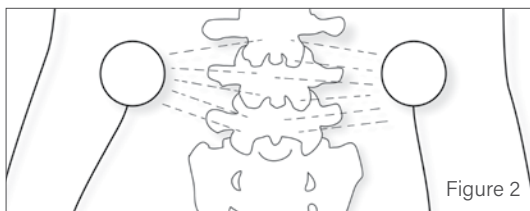

Figure 2
- **Note:** To ensure electrode placement and adhesion, you may use one of the provided electrode retainer patches. Place one electrode two to three inches to the left of the area of the surgery and a second electrode two to three inches to the right of the area of the surgery so that the electrodes are four to six inches apart. See Figure 2. Depending on the patient's ability to move after surgery, it may be helpful for the patient to ask another person to assist them in placing the electrodes. See instructions for use on Page 10. The patient should consult their prescribing physician or the Customer Care team if they have any questions or concerns regarding proper electrode placement. If their skin becomes abnormally red at the electrode sites, the electrodes should be moved adjacent to the original sites. If the redness does not go away after 48 hours with the electrodes removed, the patient should contact their prescribing physician.